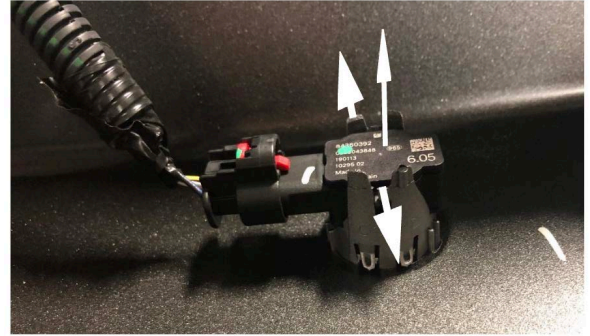

Figure 16.
15. Carefully remove the four sensors and sensor housings from the bumper by spreading the housing clips out and pushing the sensor out simultaneously. Make sure to mark the position of each housing for installing into the bumper. Figure 16.